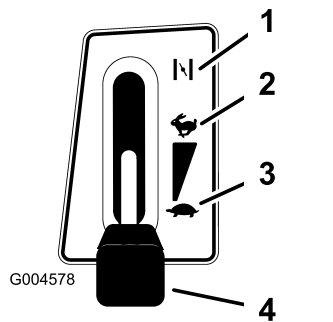

Figure 13
5. Shift the throttle lever to Choke (Figure 13).
7. After the engine starts, slowly shift the throttle lever to Fast (Figure 13). If the engine stalls or hesitates, shift the throttle lever back to Choke for a few seconds and then shift the throttle lever to Fast. Repeat this step as required.
1. Shift the throttle lever to Slow (Figure 13).